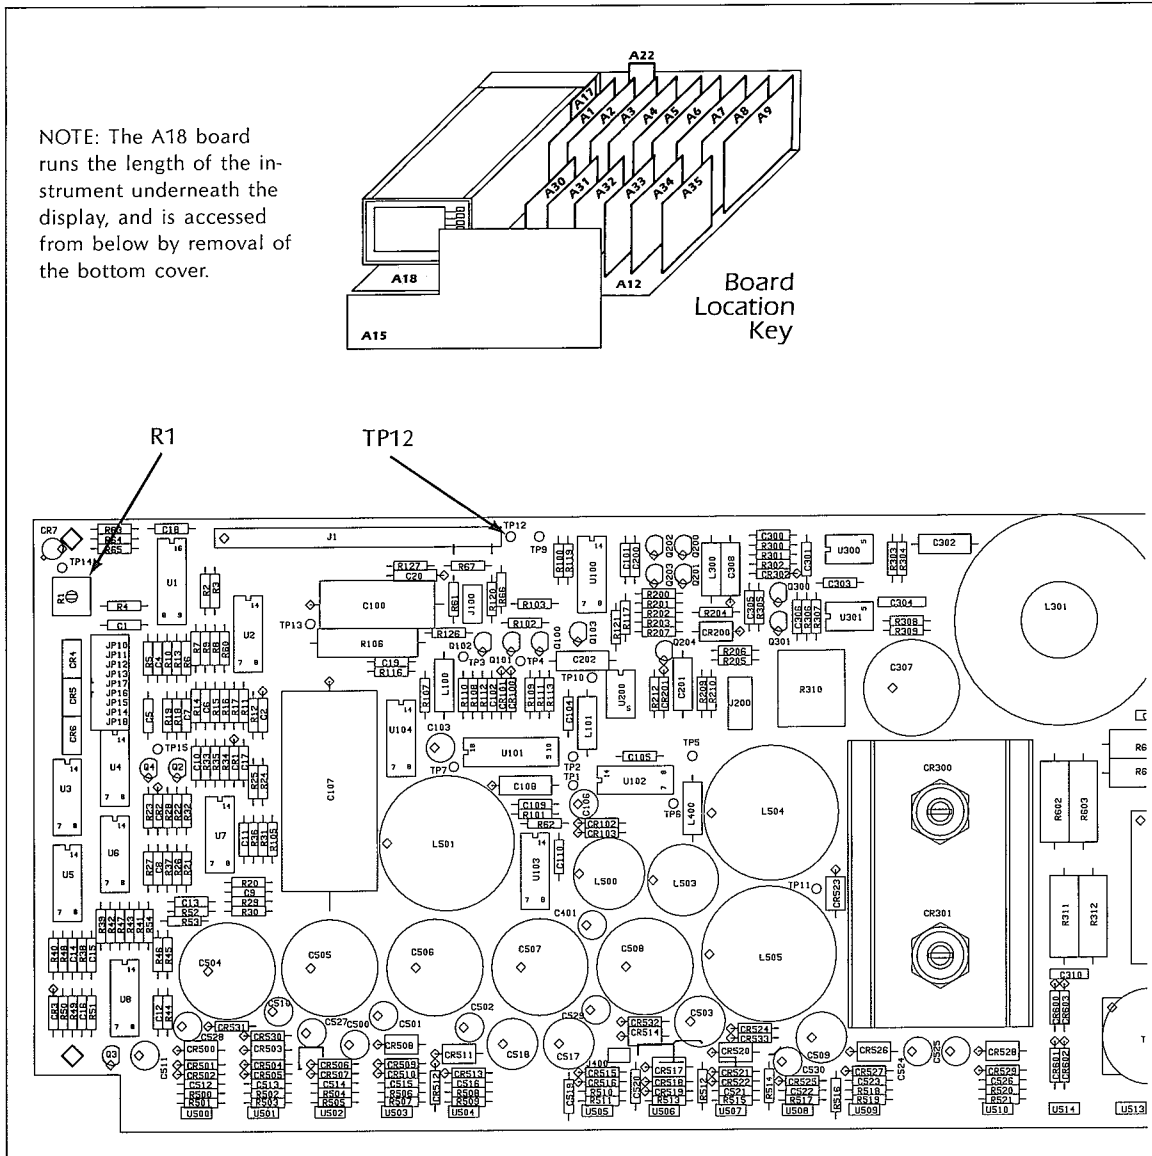

Figure 3-1 Power supply component locator (A18)
5. Configure the scope for dc coupling and connect the scope input to A18**TP12** using a 10:1 probe. See figure 3-1.